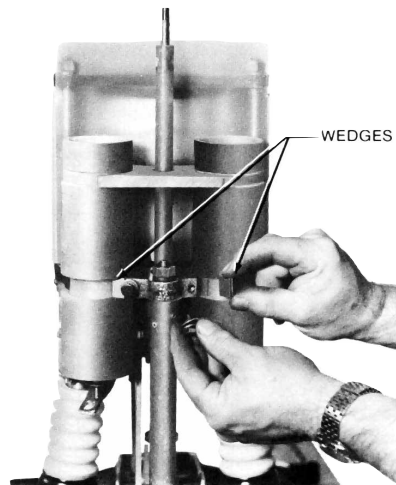

Figure 9. Removing contact tube wedges
4. Remove the capscrews, lockwashers and flat washers to release the contact tube wedges (Figure 9).